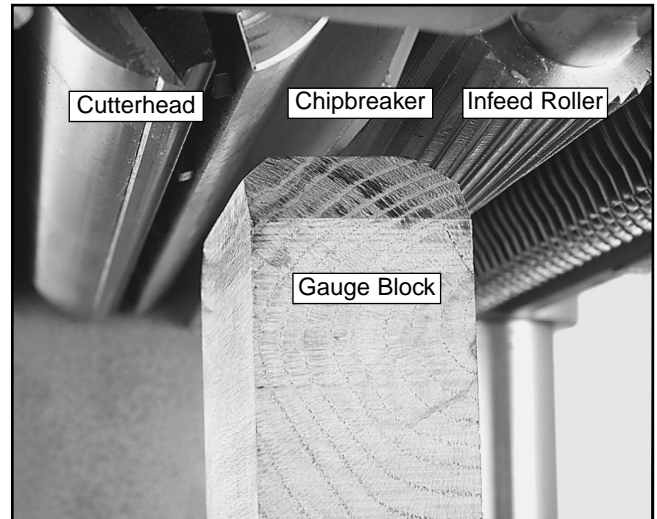

Figure 21. Location of chip breaker assembly.
5. Remove the feeler gauge and slide the gauge block under the chip breaker. **See Figure 21.** The chip breaker should just touch the top of the gauge block. Slide the gauge block to the opposite end of the chip breaker and check it in the same manner.